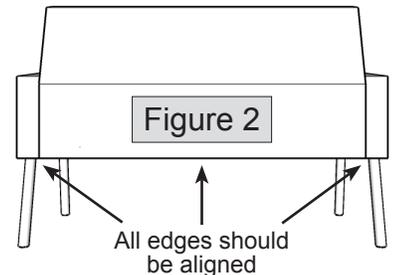

Figure 2
4. When properly connected, bottom edge of back cushion should align with bottom edges of arm frames as shown in figure 2.
7. With all bolts connected but still loose, stand loveseat/sofa upright on a level surface. Align bottom edges of arm frames, back cushion and seat cushion, (similar to figure 2) and tighten all bolts securely.